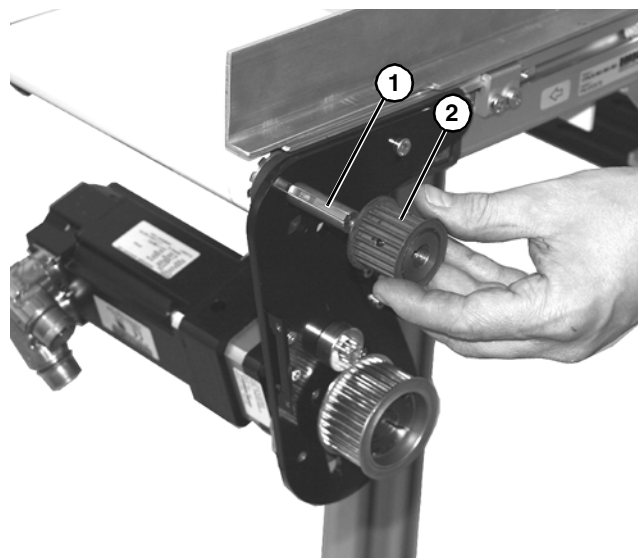

Figure 8
4. Install key (**Figure 8, item 1**).
5. Install driven pulley (**Figure 8, item 2**) onto shaft.